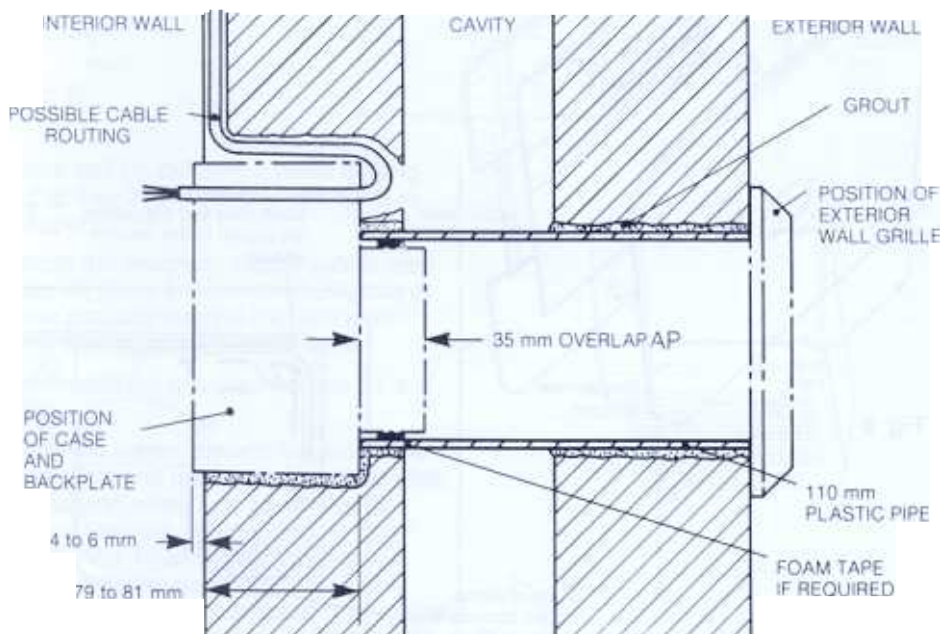

Fig. 7
The front face of the case should protrude by 4 to 6 mm from the wall surface if the bezel is to be used (see Fig. 7).
6.4 Install the electricity supply cables (see Section 4 and Fig. 7), allowing 250 mm to protrude for making connections within the case.